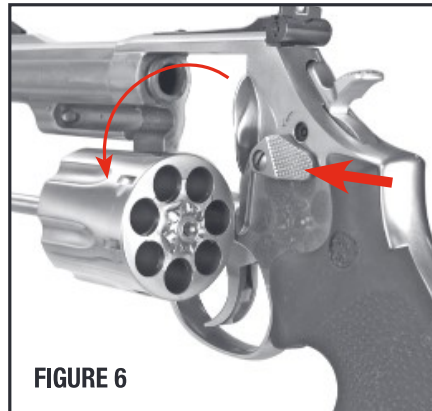

FIGURE 6
- With your finger off the trigger and outside of the trigger guard (FIGURE 5), keep the barrel of the firearm pointed in a safe direction. Press the thumbpiece fully forward and hold it, then push the cylinder to the left (FIGURE 6).